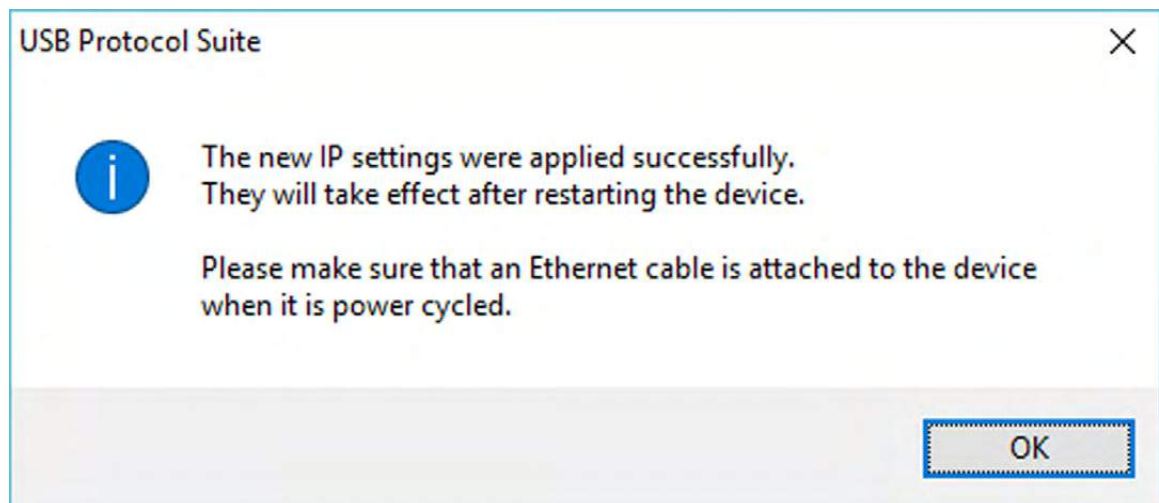

Figure 3.37: New IP Settings Have Been Applied
- Click Apply and a window will popup telling you that the new IP Settings have been applied. See Figure 3.37.